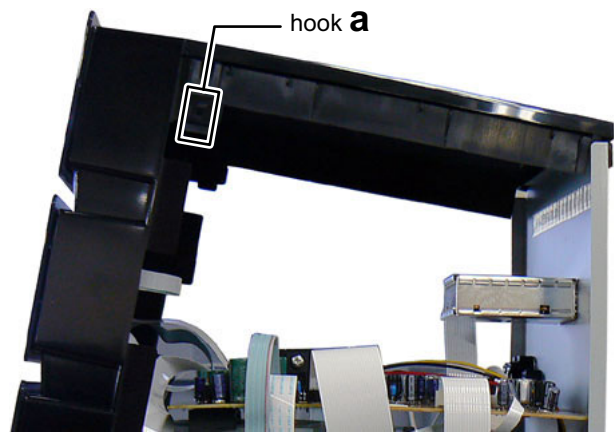

Fig.3
- (3) Disengage two hooks **a** engaged both side of the Top cover. (See Fig.3)